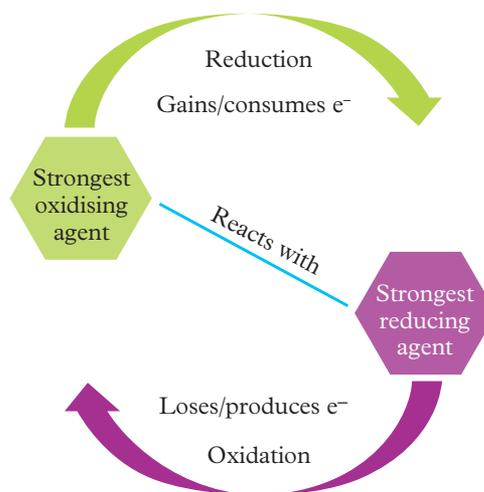

FIGURE 3 The 'S' configuration is used to determine whether chemical substances will react spontaneously.
To determine whether two chemicals will react spontaneously in a redox reaction, you can use the **RED SOX** method, which uses a diagram shaped as the letter 'S' (Figure 3).
- 3 Identify the strongest oxidising agent (top left), which will react spontaneously with the strongest reducing agent (bottom right). This is summarised in the 'S' configuration of Figure 3.